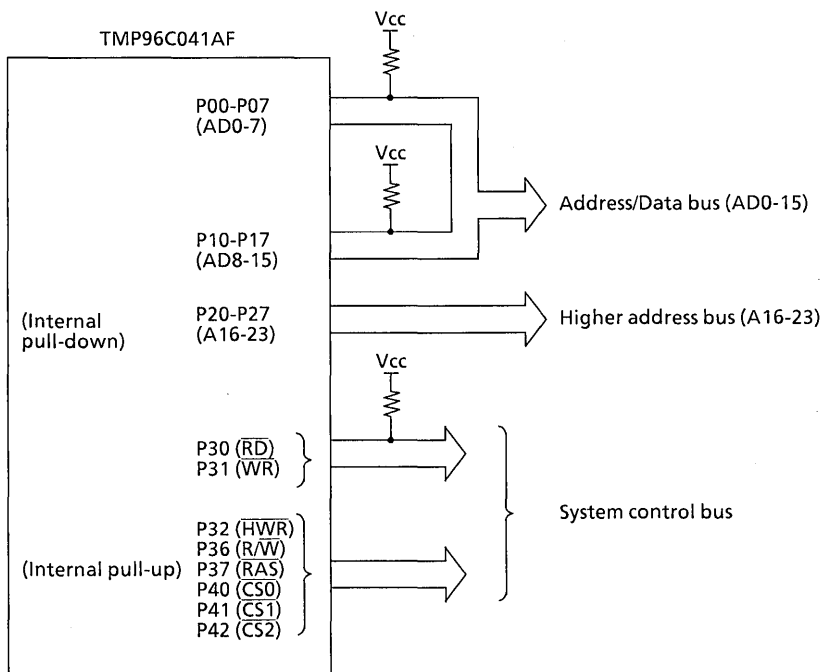

Fig.3.3 (1) Example of the interface circuit (The case of using bus releasing function)
Case of the bus release function; show a sample of external bus interface in the Fig.3.3 (1).